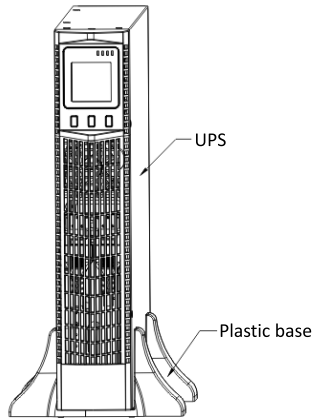

FIG. 11 The installation for UPS and battery box
- ① Two plastic base brackets
- ② Flatten it after intercrossingintercross as following FIG.
2. Install the base, then place the On-Line UPS on the base one by one as Fig.11 shows.